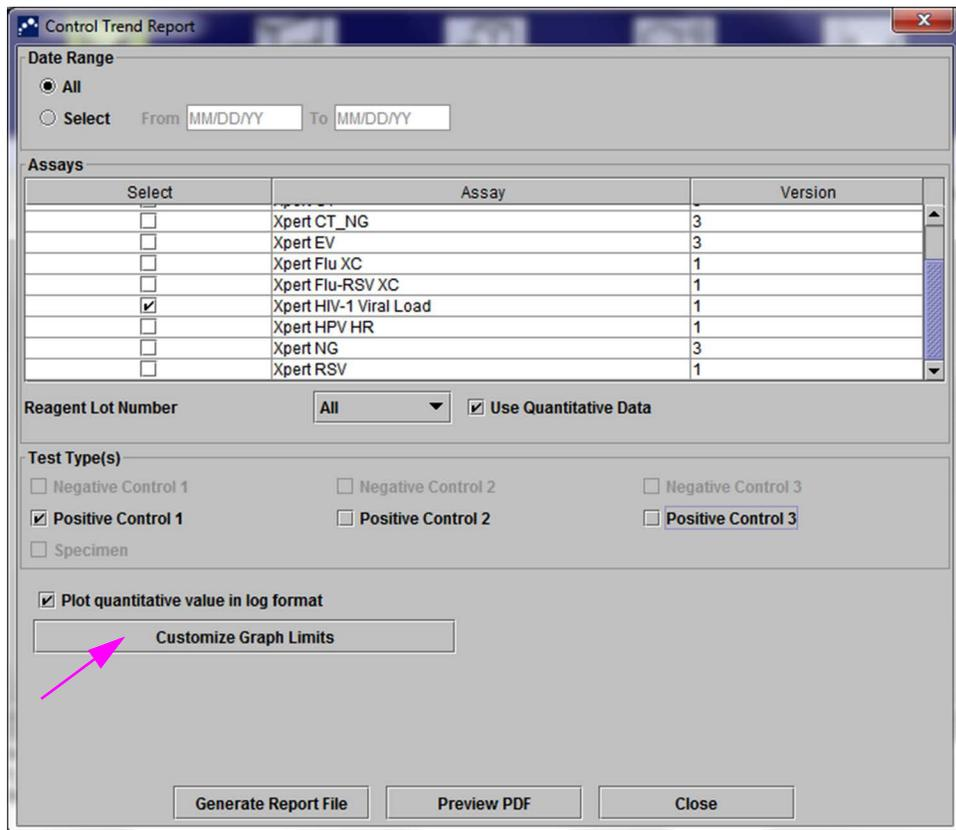

Figure 6-4. Control Trend Report Dialog Box Showing Quantitative Assay Selected
3. Select the assay to generate the Control Trend Report. See Figure 6-2 for a qualitative assay selection and Figure 6-4 for a quantitative assay selection.
4. If the assay selected is a qualitative assay, the **Use Quantitative Data** check box is not displayed (see Figure 6-2). If the assay selected is a quantitative assay, the **Use Quantitative Data** check box will be available (see Figure 6-4). Check the **Use Quantitative Data** check box to generate the Control Trend Report using quantitative data.
- Quantitative Assay Options (see Figure 6-4):
- **Generate Report File**—Creates a PDF file and saves it to the location you specify. Click the **Generate Report File** button on the Control Trend Report dialog box (see Figure 6-2 for qualitative assay trends and Figure 6-4 for quantitative assay trends) to create the PDF file of the report. The Generate Report File dialog box is displayed (see Figure 6-6), which enables you to save the file to a specified location.
- **Preview PDF**—Creates a PDF file and displays the file in the Adobe Reader window. Click the **Preview PDF** button on the Control Trend Report dialog box (see Figure 6-2 for qualitative assay trends and Figure 6-4 for quantitative assay trends) to create the PDF file of the report (see Figure 6-7). The PDF file can be saved and printed from the Adobe Reader software.